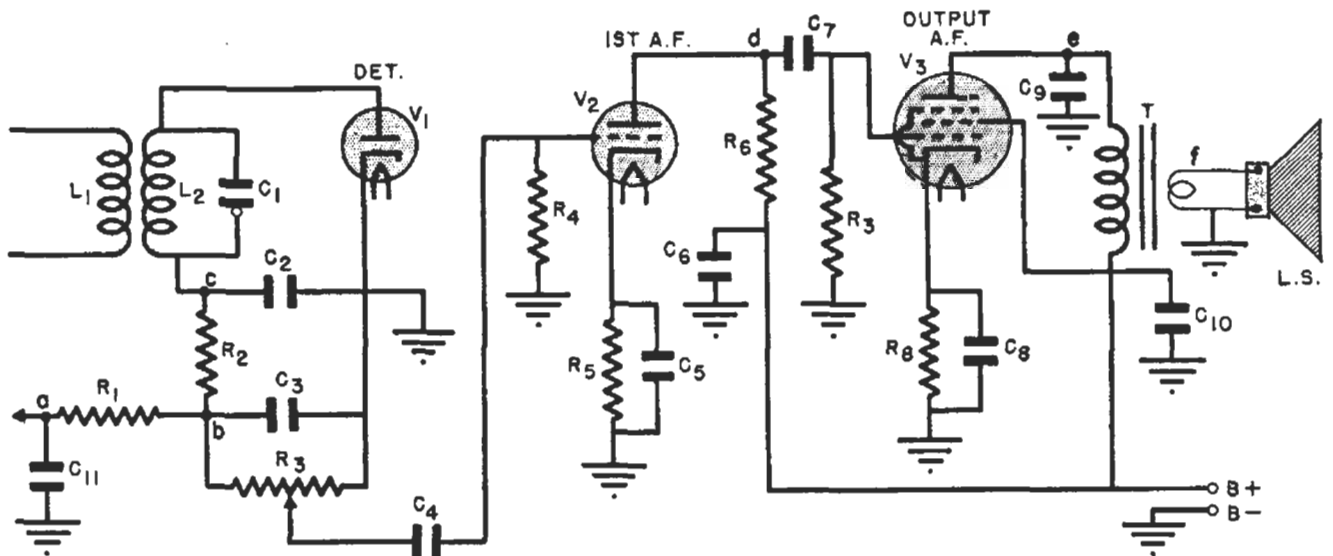

FIG. 5. Typical output meter connecting points are shown at a, b, c, d, e and f.
**Output Meter.** The most common output meter is an ordinary a.c. voltmeter using a copper-oxide rectifier, such as would be found in most any service multimeter. Using a voltage range of from 15 to 50 volts, this meter is usually connected between the plate of the output tube, point *e* in Fig. 5, and chassis. (To prevent short-circuiting the plate supply, a 600-volt condenser rated at about .5 mfd. must be used in series with this voltmeter, if one is not already built into the analyzer.)
Many servicemen make use of an a.c. voltage range of from 1.5 to 3 volts, by connecting across the voice coil of the loudspeaker. This is between terminal *f* and ground of Fig. 5.
point *b* and ground of Fig. 5. If audio signals might interfere, the signal generator can be used without modulation, or the connection can be between point *a* in the a.v.c. circuit and ground.